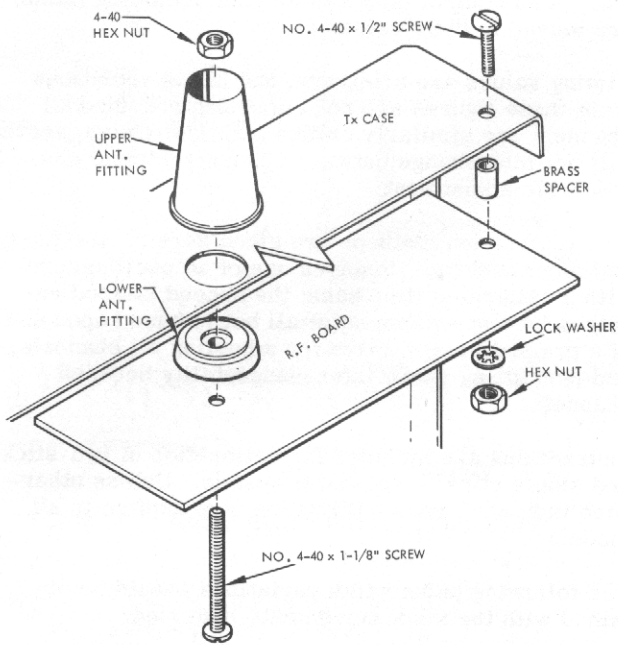

Figure 26. Installation of RF Board
- 199. Route cable made of wires (H), (I) and (J) towards top of case as shown in appropriate illustration (28 or 29). Slide 1/8" length of shrink tubing over wires, then solder red, white and black wires to RF board assembly. Clip off excess wire. Shrink the tubing over wires as close to board as possible.
- 200. Attach RF board to inside top of transmitter case as shown in figure 26. Tighten hardware securely with screwdriver.